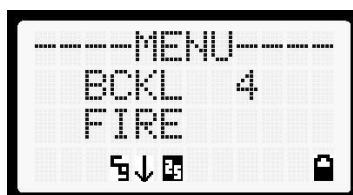

Figure 8-11: Backlight Menu Display
3. Press . The backlight menu item is activated. Line one shows the active menu item and its current parameter setting. Line two shows the currently selected system or group name (see Figure 8-11).